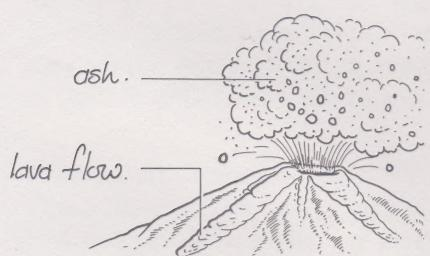

FIGURE 5 Igneous rock is formed from volcanoes.
- 2 **Igneous rocks**—these are formed as molten material becomes solid when it cools, either at the surface (Figure 5) or deep underground. (The word igneous comes from the Latin *ignis*: ‘fire’).